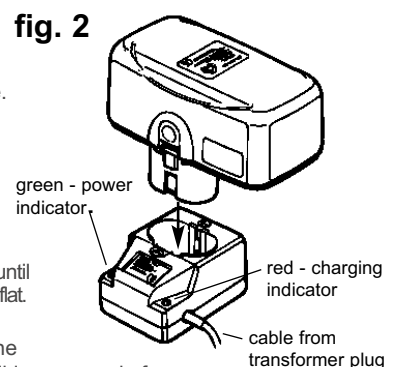

fig. 2
- 3.1.3. Connect mains transformer to the charging base (fig.2) and place the base on a safe flat surface. Plug the transformer into mains socket and switch on. The green power light will come on.
- 3.1.4. The battery is designed to fit into the charging base one way only. This is to ensure that the positive (+) and negative (-) polarities correspond. Align the + and - polarity marks on the base of the battery with the + and - marks on the charging base, insert the battery and press lightly to seat the battery firmly into the charging base, as in fig.2.